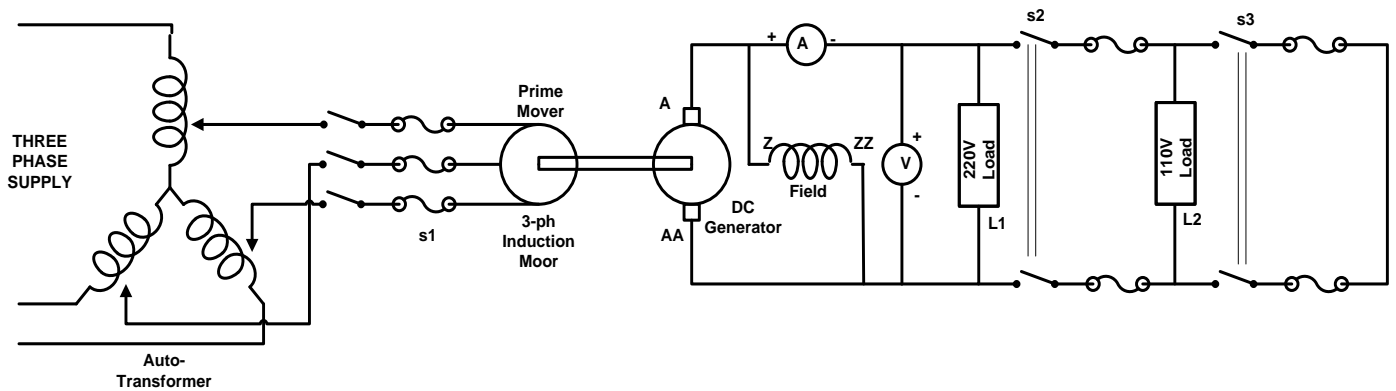

Figure 2: Load test on DC Shunt generator
- 1) Connect the circuit as shown in figure 2 with switches S1, S2, S3 open and all steps of load L1 are also open.